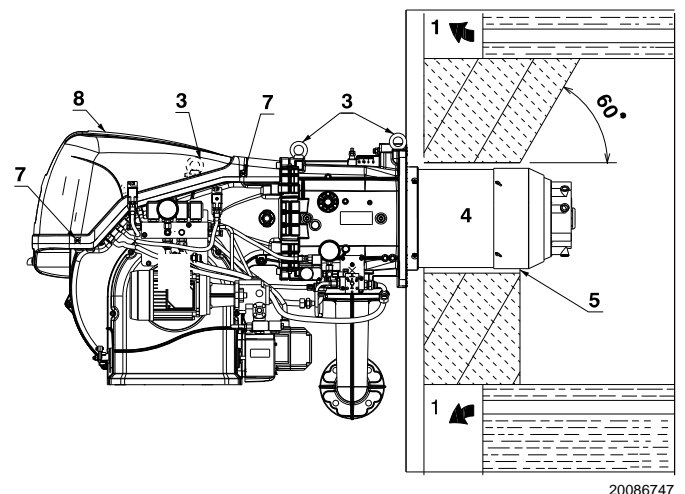

Fig. 17
For boilers with front flue passes 1)(Fig. 17 on page 25) or flame inversion chamber, a protection in refractory material 5) must be inserted between the boiler fettling 2) and the blast tube 4).
For boilers with a water-cooled front piece, a refractory lining 2)-5)(Fig. 17 on page 25) is not necessary, unless expressly requested by the boiler manufacturer.
Prepare a suitable lifting system using the rings 3)(Fig. 17 on page 25), after removing the fixing screws 7) of the casing 8).
- Fit the heat insulation supplied onto the blast tube 4)(Fig. 17 on page 25).